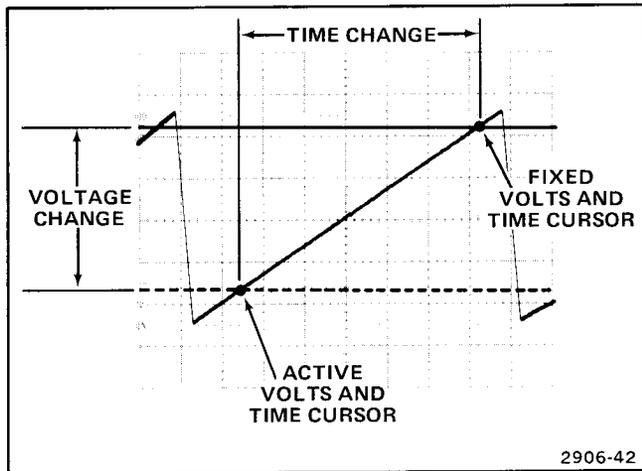

Figure 26. Slope using COUPLED V/T cursors.
1. Obtain a NORM Storage Mode display of the waveform to be measured. Set the VOLTS/DIV switch to obtain about 5 divisions of vertical amplitude. Set the TIME/DIV switch to horizontally spread the portion of the waveform to be measured across the width of the graticule area (see Figure 26).
As an example, in Figure 26, the voltage difference between the measurement points is 1.74 V, and the time difference is 5.42 s.